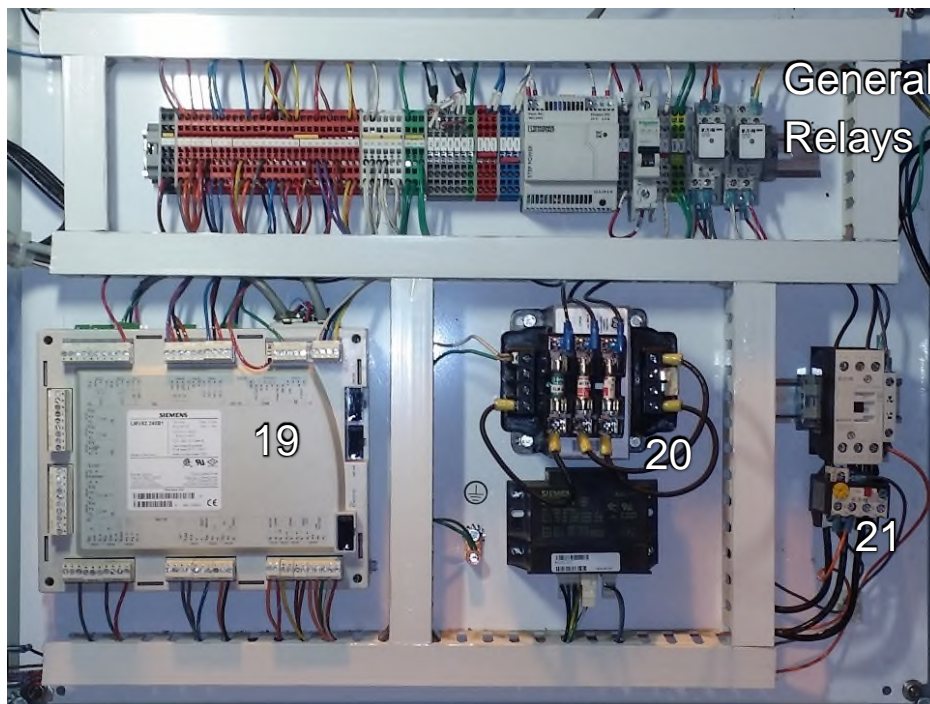

Figure 2.4 Control Panel
17. Control Panel – Houses and protects electrical controls, wiring, and provides terminals for wiring connections. See details below in Figure 2.4.